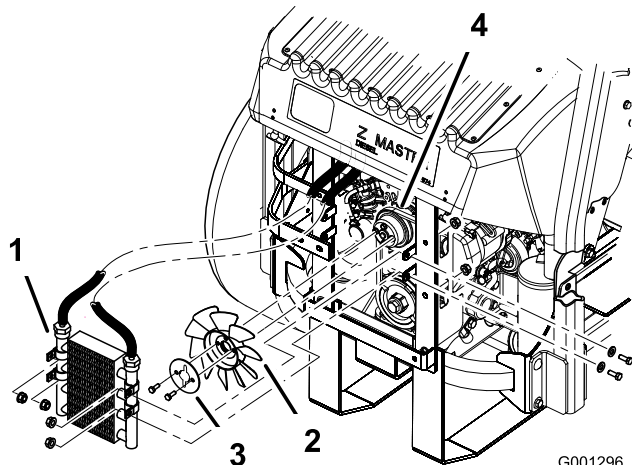

Figure 66
- Remove the 4 bolts holding the oil cooler and position the oil cooler to the side (Figure 66).
- Remove the 2 bolts holding the fan and fan plate to the machine (Figure 66).
- Install the fan and fan plate to the machine with the 2 bolts previously removed (Figure 66).
- Install the oil cooler with the 4 bolts previously removed (Figure 66).